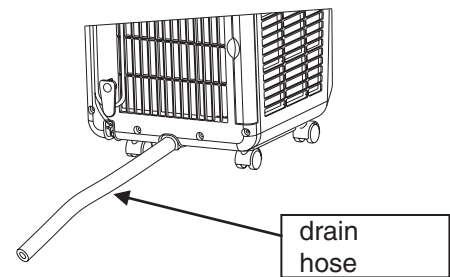

fig. 14
- 2 Insert a suitable drain PVC hose with an outer diameter of 13 mm (see figure 14) into the water drain approximately 8 to 10 mm.